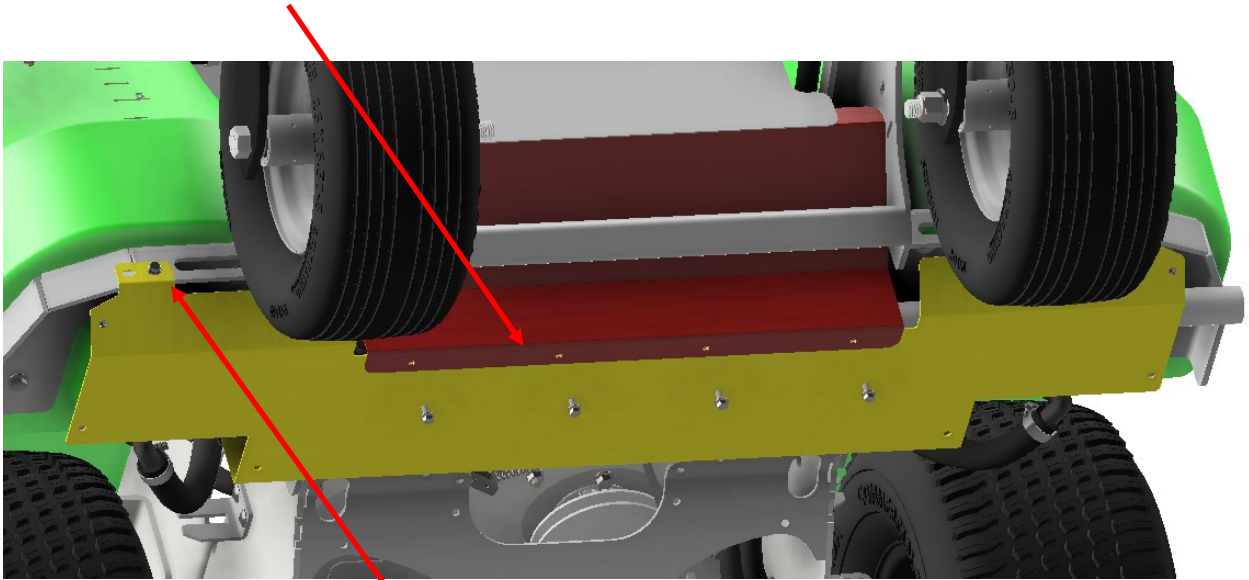

Fig. 1
**NOTE:** Be sure the front shield flange is on the bottom of the heat shield (see Fig. 1).